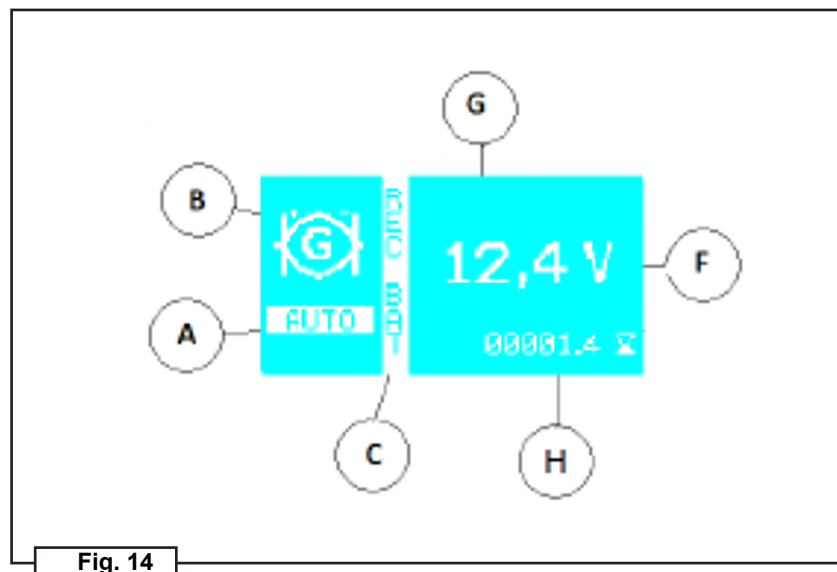

Fig. 14
Press POWER selector "1" and then selector MODE "2" to obtain the automatic battery recharge set-up. The BAT REC position "C" icon, the automatic condition AUTO position "A" icon and the GENERATOR (DC) position "B" icon will be shown on "G" (Fig. 14). The system is now set on "Automatic Battery Recharge" mode. All other visual information on the "G" display corresponds to the following: